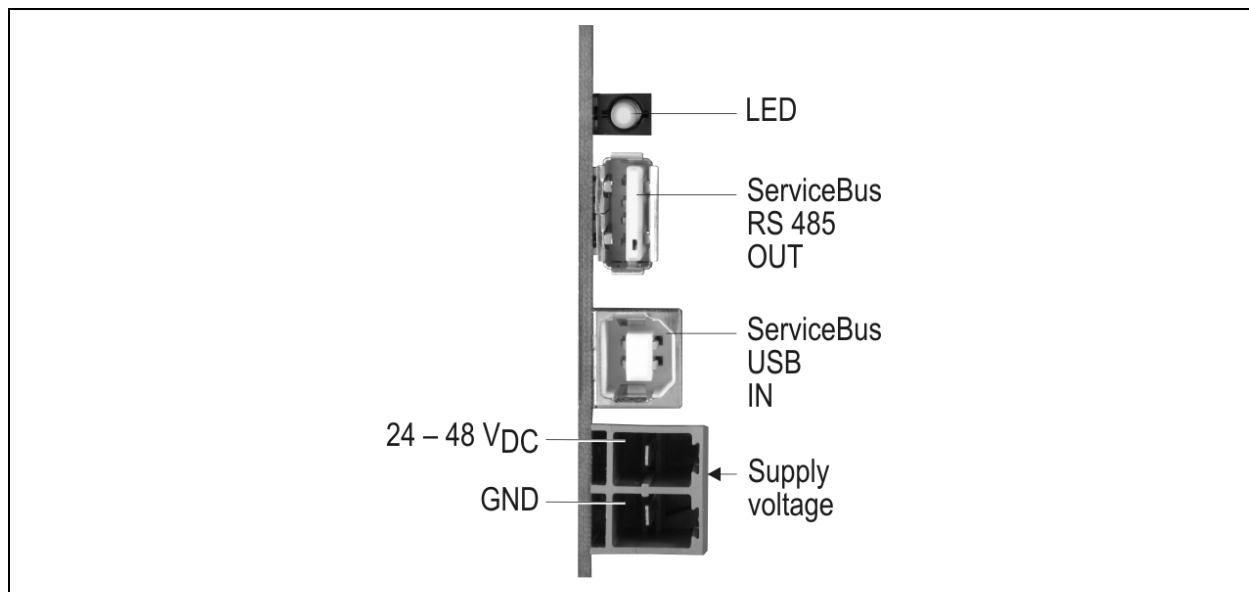

Fig. 4: PSB module type **USB** with **built-in** USB-RS 485 converter
1. The PSB module type **USB** (Fig. 4) with an integrated USB-RS 485 converter can directly be connected to the USB port of the PC.